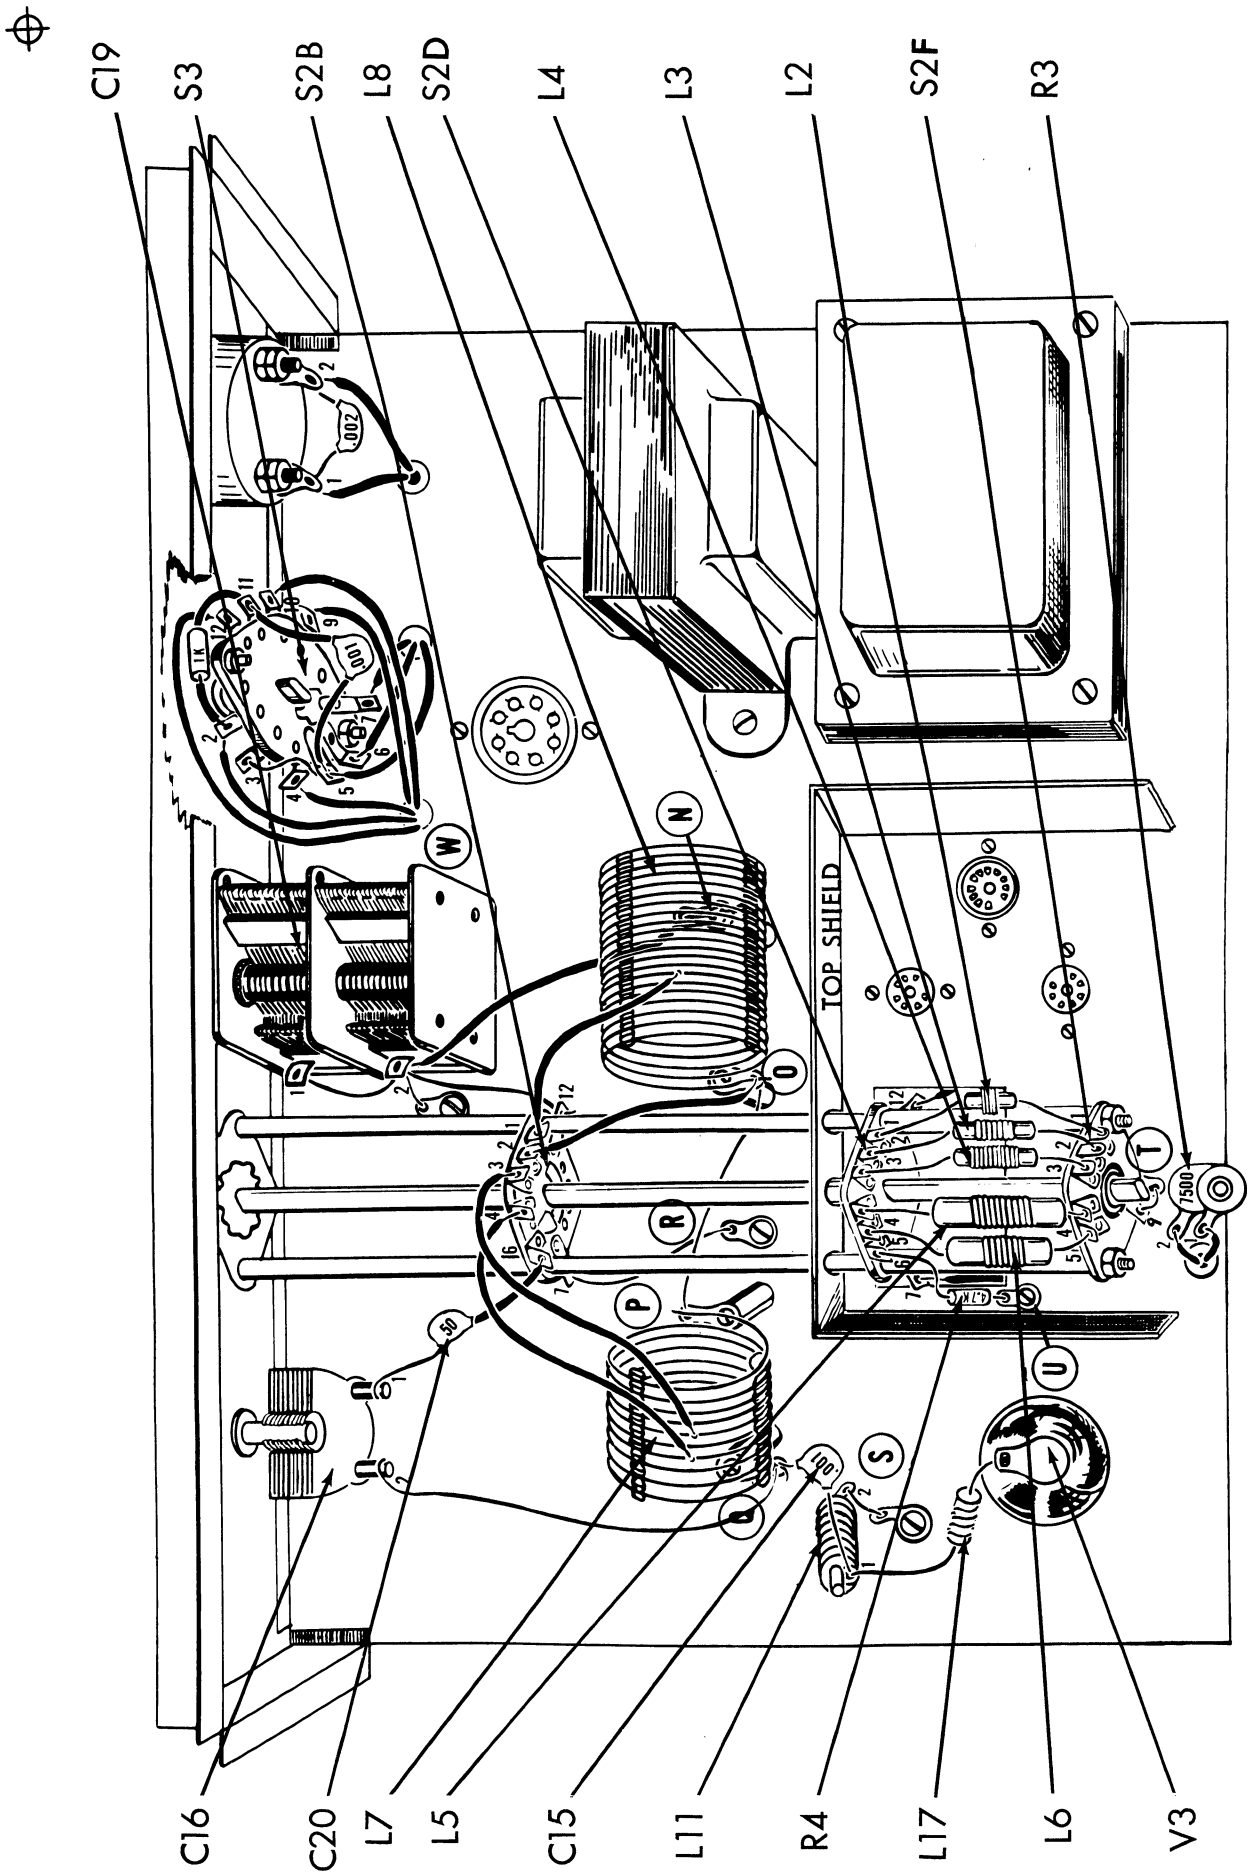

Fig. 9
1. (✓) Fig. 9. Connect a 2 1/2" piece of the heavy bare wire from C19-2 (S4) to S2B-12 (S1).
2. ( ) Fig. 9. Connect a 3" piece of heavy bare wire covered with a 2 1/2" piece of spaghetti from S2B-7 (S1) to ground lug "R" (S1) under S2.
3. (✓) Fig. 9. The two large coils, L7 and L8, are to be mounted as follows. Note that L7 has less turns than L8. L7 has 2 taps while L8 has one tap. The chassis is oriented with the panel away from the builder. Mount L7 (the coil with less turns), as shown. The two taps are to be close to the left edge of the chassis, away from S2. The first tap is 4 1/2 turns from the right. The ends of the coil are to be soldered to the two #8 ground lugs which are mounted on the two ceramic standoff insulators at the left of S2. Bend the ears on the lugs around the ends of the coil wire. Solder the ends of the coil wire and all the other leads going to lugs "P" & "Q". Clip off any excess length of coil wire, extending beyond the soldered lugs.
4. (✓) Fig. 9. Cut the lead coming from the center of L8 to 2 3/4". Cover the lead with a 2 1/2" piece of spaghetti. Connect the lead to S2B-1 (S1).
5. (✓) Fig. 9. Cut the two leads connected near the center of L7 to 3". Cover each lead with a 2 3/4" piece of spaghetti. Connect the lead from the tap nearest the switch to S2B-3 (S1). Connect the other lead to S2B-4 (S1).
6. (✓) Fig. 9. Cut both leads on a 50 mfd disc capacitor, C20, to 1 1/4". Cover one lead with a 1" piece of spaghetti and connect to S2B-6 (S1). Connect the other lead to C16-1 (S1).
7. (✓) Fig. 9. Connect a 3 1/4" piece of heavy bare wire from C16-2 (S1) to lug "Q" (C).
8. (✓) Fig. 9. Cut both leads on a .001 mfd - 2000V (1K or 1000 mmf) disc capacitor, C15, to 1". Connect from L11-1 (C) to Lug "Q" (S3).
9. (✓) Fig. 9. Connect a 3/4" piece of bare wire from L11-2 (S1) to insulated lug "S" (S1).
10. (✓) Fig. 9. Cut one end of the parasitic suppressor choke, L17, to 3/4". This is a 47Ω (yellow, violet, black) resistor with four turns of wire. Connect this end to L11-1 (S2).
11. (✓) Fig. 9. Cut the other end of the choke L17 to 1 1/4". Push it through the rear hole in the insulation of the tube cap. Solder this lead to the cap.
12. (✓) Fig. 9. From hole "W", connect the black lead to S3A-9 (S1).
13. (✓) Fig. 9. From hole "W", connect the red-yellow lead to S3A-2 (S2).
14. (✓) Fig. 9. One end of a heavy bare wire covered with spaghetti was previously connected to C12-3 and pushed through the rectangular hole. Connect the other end of this wire to S2D-12 (S1).
15. (✓) Fig. 9. Connect the remaining heavy bare wire covered with spaghetti coming through this same rectangular hole to S2D-7 (S1).
16. (✓) Fig. 9. Connect a 1" piece of heavy bare wire from S2F-9 (S1) to insulated lug "T" (S1).
17. (✓) Fig. 9. Cut both leads on a 4.7KΩ (yellow, violet, red) resistor, R4, to 1 1/4". Connect from S2D-6 (S1) to ground lug "U" (S1). Cover lead to S2D-6 with 1" spaghetti.
18. ( ) Fig. 9. In one bag included in the kit there are five RF coils, L2, L3, L4, L5 and L6. The coil on the smallest form with the red dot is L2. The coils on the largest coil form with stock number 35031 stamped on the body is L6. All the coils range from the smallest to the largest in that order. For example, L6 is larger than L5, which has stock #35030 stamped on the body. L5 is larger than L4, etc. L3 with the orange dot and L4 with the green dot are on the same size coil form. However, L3 uses a finer (thinner) wire than L4. Cut all leads to 3/4" except L6. Connect L2 from S2D-1 (S1) to S2F-1 (S1). Connect L3 from S2D-2 (S1) to S2F-2 (S1). Connect L4 from S2D-3 (S1) to S2F-3 (S1). Connect L5 from S2D-4 (S1) to S2F-4 (S1). Cut leads on L6 to 1/2" and connect L6 from S2D-5 (S1) to S2F-5 (S1). Align all coils so that they are parallel to each other and are spaced as far apart as practicable.
19. (✓) Fig. 9. Mount the top shield as shown in Figure 1, by sliding the slits in the shield over the switch rods. Use four #6 lockwashers and four #6-32 hex nuts.
20. (✓) Fig. 9. Solder one of the twist tabs of the bottom shield to the top of the chassis.